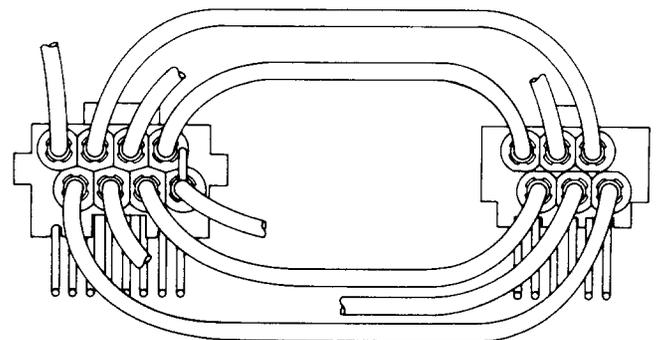

Fig. 12—642A or B Jack
2.12 642A and B: The 642A and B jacks (Fig. 12) each consist of a 6-conductor spring block assembly (gray) and an 8-conductor spring block assembly (ivory). The 642A and B jacks are intended to be snapped into separately supplied jacks or blocks and receive modular-type telephone jacks.